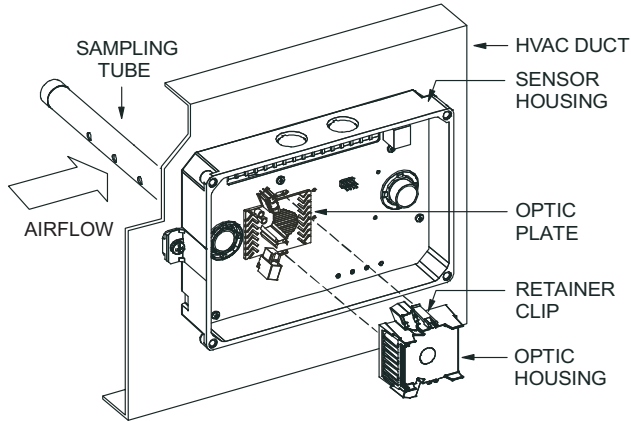

Fig. 37 — Sensor Cleaning Diagram
1. Disconnect power from the duct detector, then remove the sensor's cover. (See Fig. 37.)